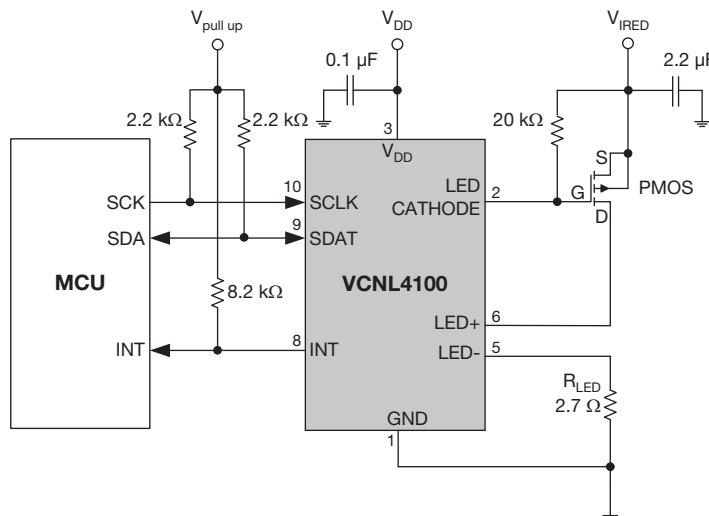

Fig. 10 - Application Diagram
- (1) Light source: white LED
- (2) Maximum detection range to ambient light can be determined by ALS refresh time adjustment. Refer to table 17 "ALS Resolution and Maximum Detection Range"
- (3) Based on IRED on / off duty ratio = 1/5120, 1/640, 1/80, and 1/20. The circuitry should use an external MOSFET as shown with fig.10. Please see also the Application Note "Designing the VCNL4100 into an Application" ([www.vishay.com/doc?84361](http://www.vishay.com/doc?84361)).